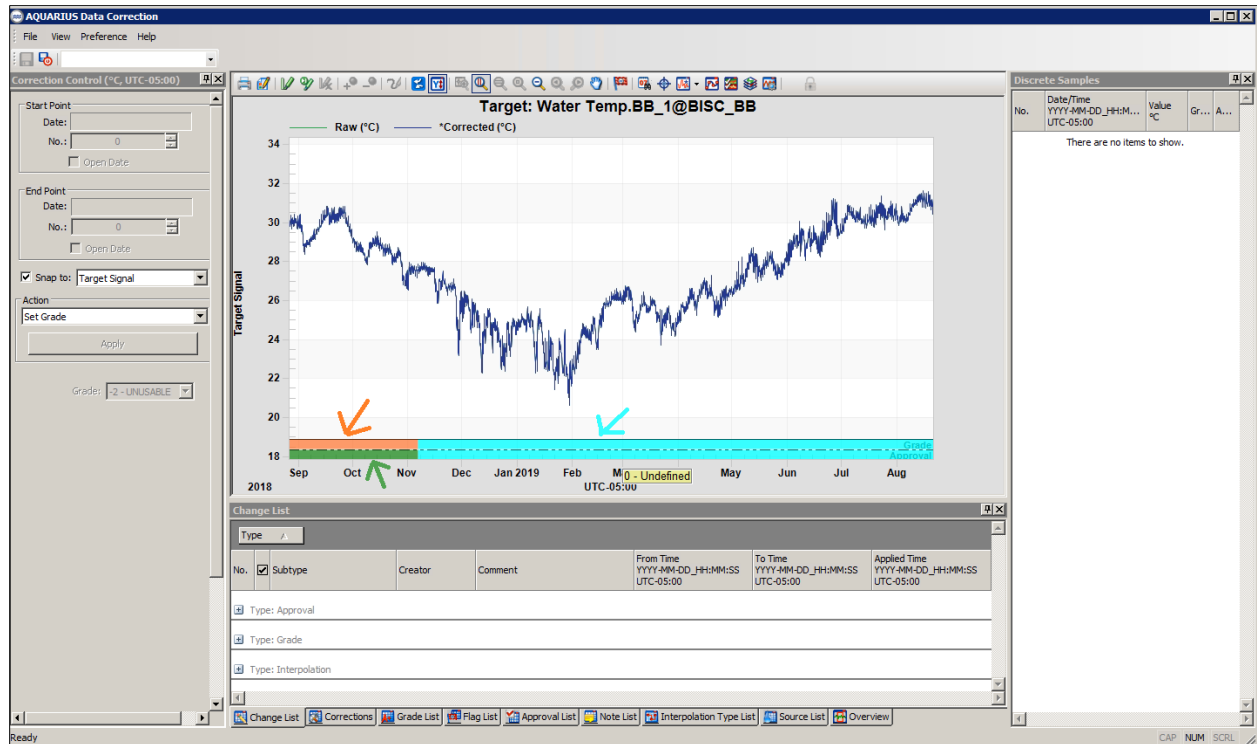

Figure 4. Screenshot showing the Aquarius Data Correction window within the Aquarius Springboard interface.
4. The window that opens should display the temperature data for that logger. The orange bar at the bottom of the graph shows the “grade” of the data and the green bar at the bottom of the graph shows the “approval” of the data. The light blue bars represent the span of the newly appended data and show that no grade or approval has been set yet (Figure 4).